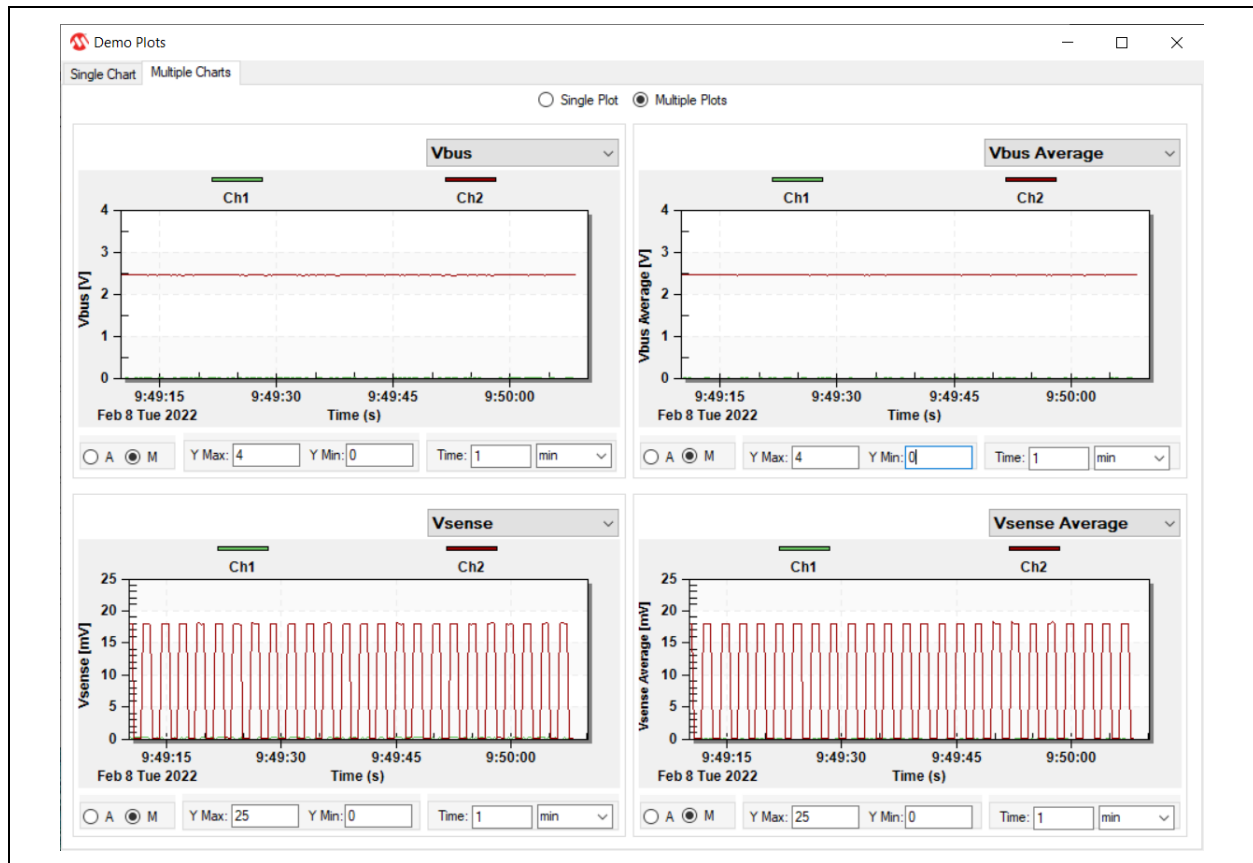

FIGURE 3-10: Demo Plots – Multiple Charts, Multiple Plots Option.
1. Demo Board Settings – This is used in Demo configuration to control an on-board FET. It currently produces a pulsed current waveform, as seen in Figure 3-10. The DAC Settings enable the DAC output on the MCP2221A and the amplitude is determined by the value entered in “Max”.